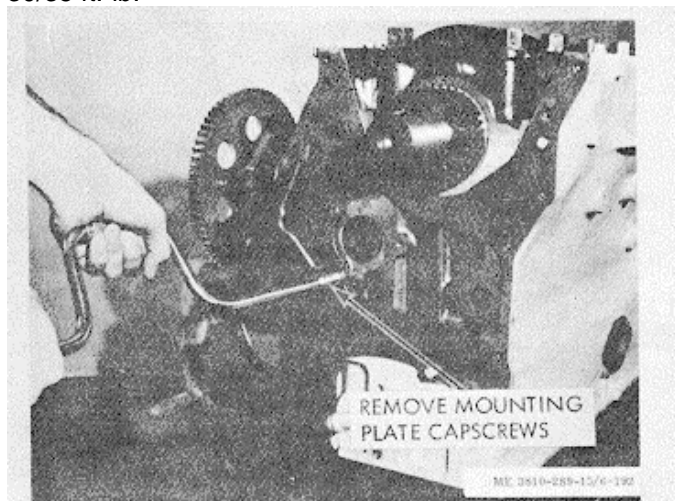
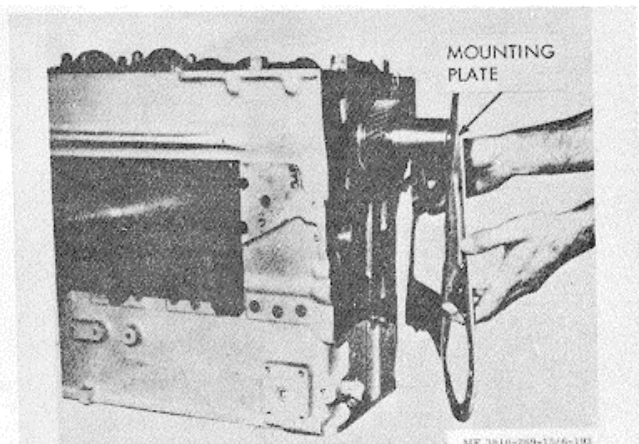

Figure 3-184. Gear cover mounting plate removal.
Figure 3-185. Gear cover mounting plate installation.
a. Removal. Remove capscrews and lockwashers securing plate to block (fig. 3-184). Tap plate from block with lead or plastic hammer. Discard gasket.
(1) Be sure old gasket material is removed from mounting plate; position a new plate-to-block gasket on back of plate with gasket adhesive.
(2) Mount plate over dowels, figure 3-185, and secure with lockwashers and capscrews; tighten to 30/35 ft.-lb.